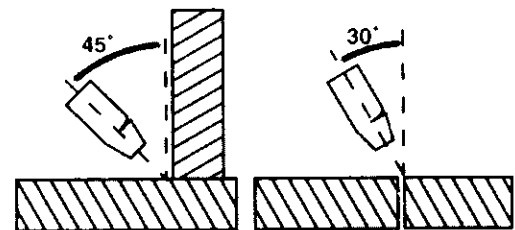

Figure 8. Gun Position, Angle B
2. Angle B (Figure 8) can be varied for two reasons: to improve the ability to see the arc in relation to the weld puddle and to direct the force of the arc.